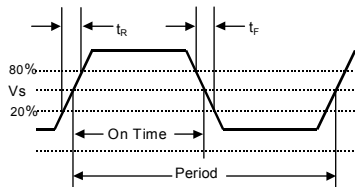

Figure 2. Output Waveform
2. Figure 2 defines the waveform parameters. Figure 3 illustrates the standard test conditions under which these parameters are tested and specified
3. Duty Cycle is defined as (on time/period) with $V_s = V_{dd}/2$ per Figure 2. Duty Cycle is measured with a 15pf load per Figure 3.